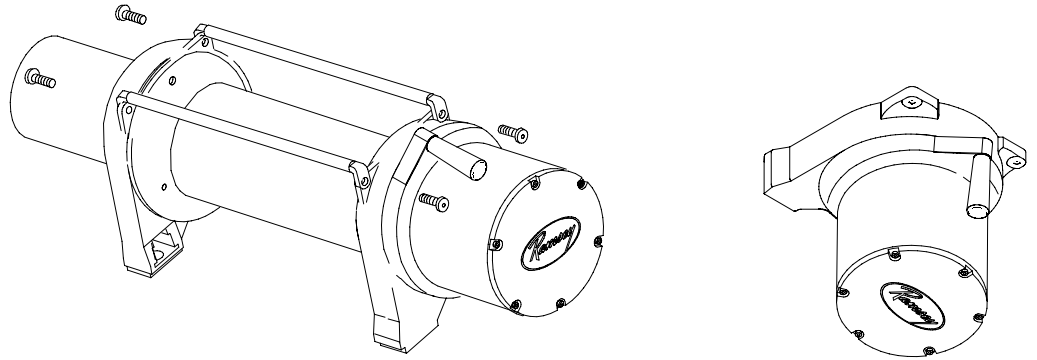

FIGURE 7
1. Position winch as shown in Figure 7. Remove screws from tiebars. You may be able to loosen the screws at the motor end without removing them. Pull the Gear Housing assembly from the drum and shaft and set it down on the work bench with the Gear Housing Cover up. Remove the drum bushing from the Gear Housing assembly or the end of the drum. Set aside.
2. Remove (6) capscrews from the Gear Housing Cover. Holding the Gear Housing Cover over the Gear Housing assembly, flip it over and set it on the workbench.